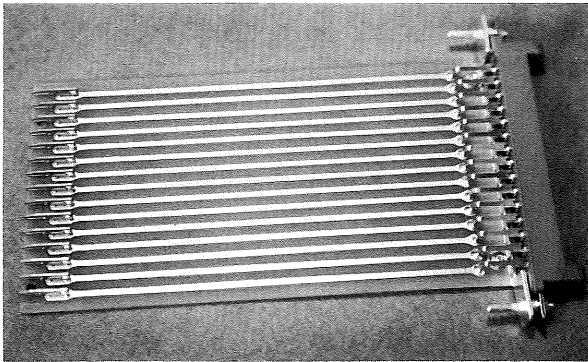

Figure 2-45
1. Turn off the 567. Remove the A memory board from the 6R1A. Insert a 15 pin extender board, See Figure 2-45, into the A memory receptacle and connect the A memory board to the 15 pin extender board. Turn on the 567. See Figure 2-46.